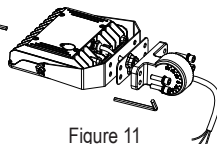

Figure 11
**Step 4:** Pull the wire through the knuckle upper part. Using an Allen key (7/32), install the knuckle upper part to the "U" shaped bracket, with the screws provided. Pull the wire through the knuckle lower part. (Figure 11)